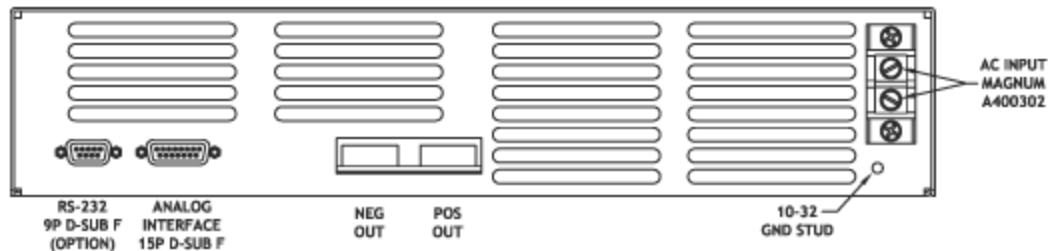

Figure 4
Refer to Figure 4, LDD-3000 Outline Drawing for location of RS-232 Connector.
- 1. Connecting to Laser Diode:** Figure 4 shows the location of the LDD-3000 output terminals. Connect diode laser load to the output terminals. Although CW diode laser applications are generally free of voltage spikes associated with high speed Quasi-CW applications, it is still good practice to keep connections between the diode laser and power supply as short as possible to avoid I^2R losses in the wire.
- 2. Interface Connection:** Connect user system to 15 pin D-sub connector shown in Figure 4. (Although the user interface is typically designed by the user, Lumina
- a. **AC Input Power Connection:** Input power is shown in Table 2. Connect AC power and Earth Ground connections to power supply input power terminals. Refer to Figure 4 for location of AC Input.